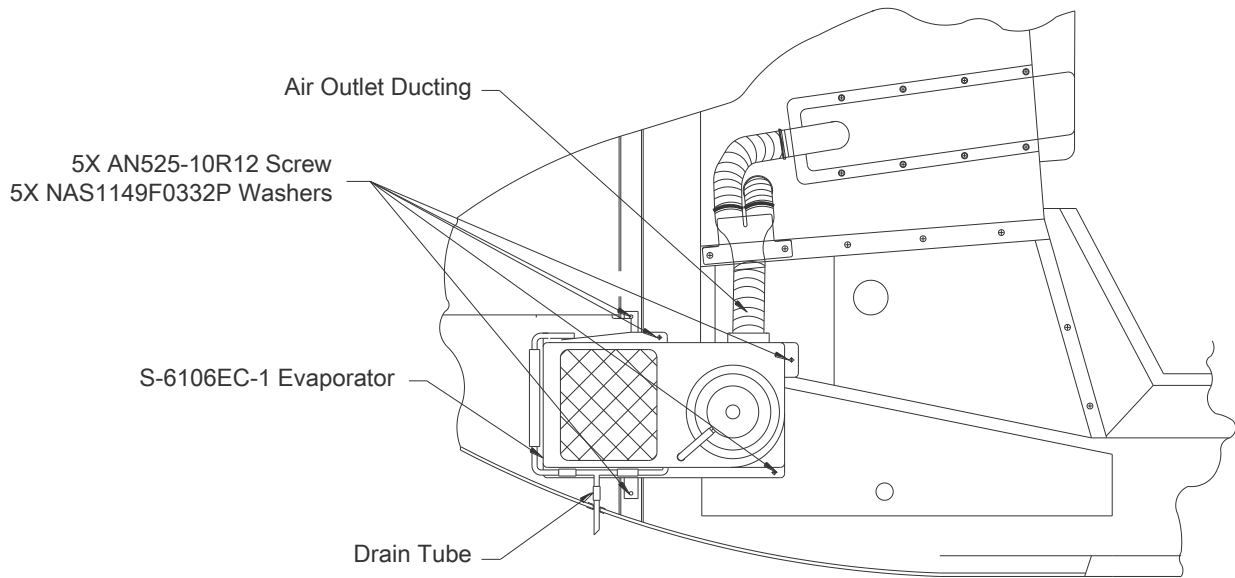

Figure 14: Forward Evaporator – View G-G
7. REMOVE AND REPLACE FORWARD EVAPORATOR (Figure 14)